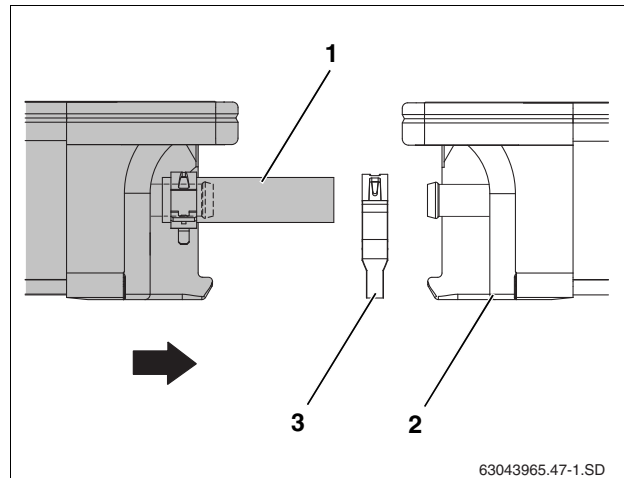

Fig. 49 Pushing second collector toward the first
- ▶ Lay the second collector along with the preassembled solar hoses (Fig. 49, [1]) onto the profile rails and let it slide into the collector hangers.
- ▶ Push the second hose clamp (Fig. 49, [3]) onto the solar hose.
- ▶ Push the second collector toward the first collector (Fig. 49, [2]) so that the preassembled solar hoses are pushed onto the connections of the first collector.